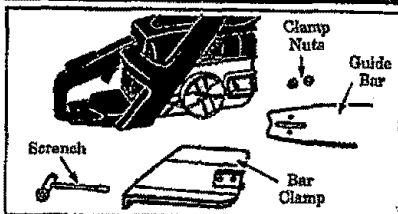

Figure 6
- Remove the following parts as shown in Figure 6, using the Scrench provided with the unit.